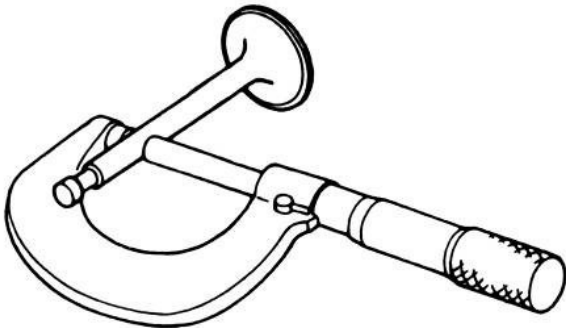

Figure 4-18: Check Valve Stem Diameter
5. See Figure 4-18. Verify the valve guide bore is straight, round, and centered in the guide.